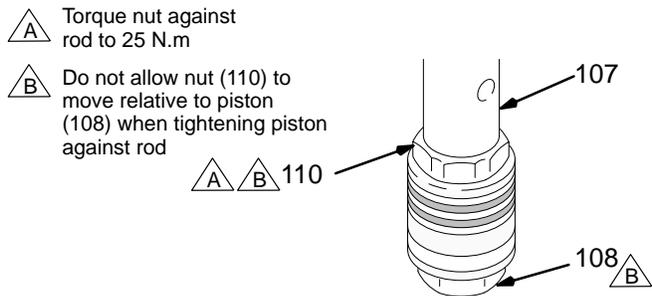

Fig. 22 03179
6. Hand tighten the valve into the piston rod just until the nut (110) contacts the rod. See Fig. 22.
8. **CAREFULLY** tighten the nut (110) against the piston rod to 25 N.m. See Fig. 22.